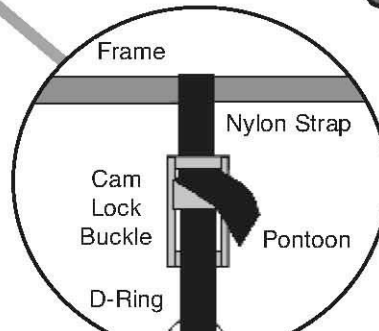

Figure 6
2. Attach each Pontoon to frame using (4) Cam Lock Straps. Slip each strap through D-Ring on Pontoon, around frame and pull tight through Cam Lock Buckle. NOTE: Be sure the straps are pulled tight through the Cam Lock Buckles (see figure 6). Note: There are slots in the Standing Platform to slip the straps through.